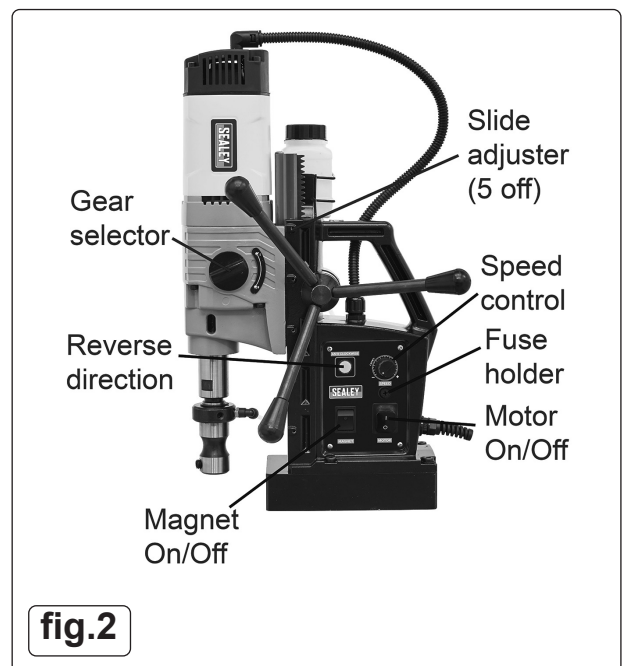

fig.2
- 4.4. ADJUSTING THE SLIDES (fig.2)**
- 4.5. REPLACING THE FUSE (fig.2)**
- 5.2.1. Loosen clamps (fig.2) and slide drill body to required height on the carriage. Re-tighten when drill body is in position.
- 5.4. SELECTING GEAR (fig.2)**
- 5.4.2. Use knob (fig.2) to select required gear setting for the operation to be carried out. Rotate the spindle by hand to help line up of gears.
5.8.2. Back the cutting head away from the workpiece, turn the drill motor on (fig.2). Check the drill sounds and is operating normally.
5.8.3. Turn the handle (fig.2) anticlockwise to move the cutting bit towards the workpiece.
5.8.6. Once the hole has been cut, back the cutting head back out of the hole and switch off the motor. Reverse motor direction can be engaged using relevant control (fig.2) if required.